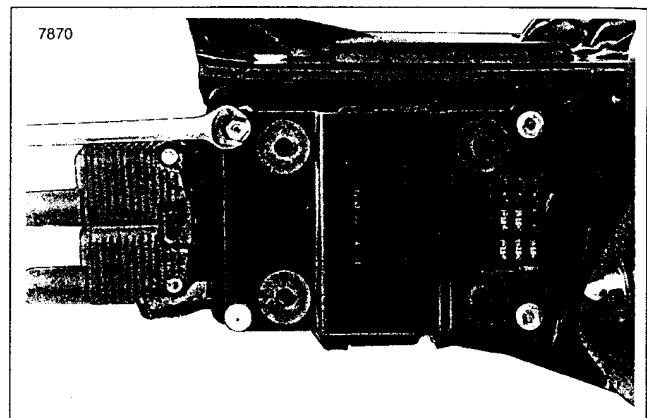

Figure 8-9. Removing/installing Top Plate
5. See Figure 8-9. Secure nuts on top plate. Tighten to 70-90 in-lbs (7.9-10.16 Nm.).